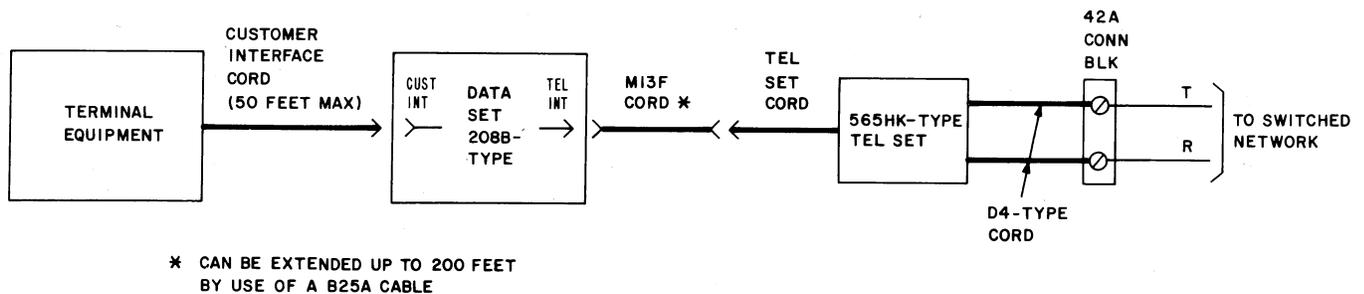

Fig. 15—Typical Single Data Set 208B-Type Arrangement Without ACU—Block Diagram
**4.01** This part describes the typical single and multiple DS 208B-type arrangements shown in Fig. 15 through 19.
#### A. Single Data Set Arrangement (Fig. 15 and 16)
**4.04** A typical single DS 208B-type arrangement without an ACU is shown in Fig. 15. The 42A connector block and D4-type cord must be ordered separately. The data set may be located up to 200 feet from the telephone set by using a B25A cable to extend the M13F cord. The B25A cable must also be ordered separately.